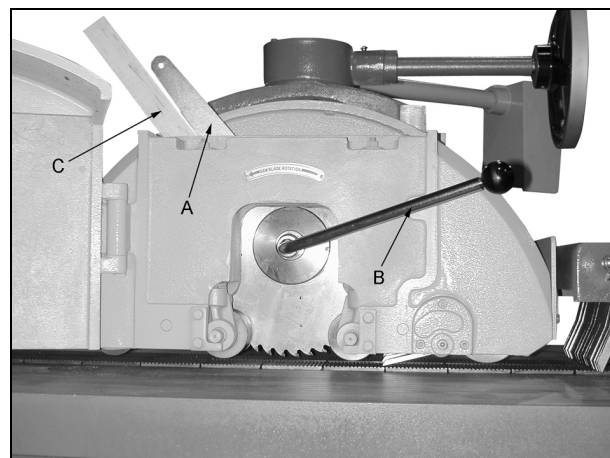

Figure 7
4. Use the supplied arbor wrench (A, Figure 7) and arbor bolt wrench (B, Figure 7) to loosen the arbor bolt. Use a block of wood (C, Figure 7) to support the arbor wrench for better stability. Remove the bolt and damper.